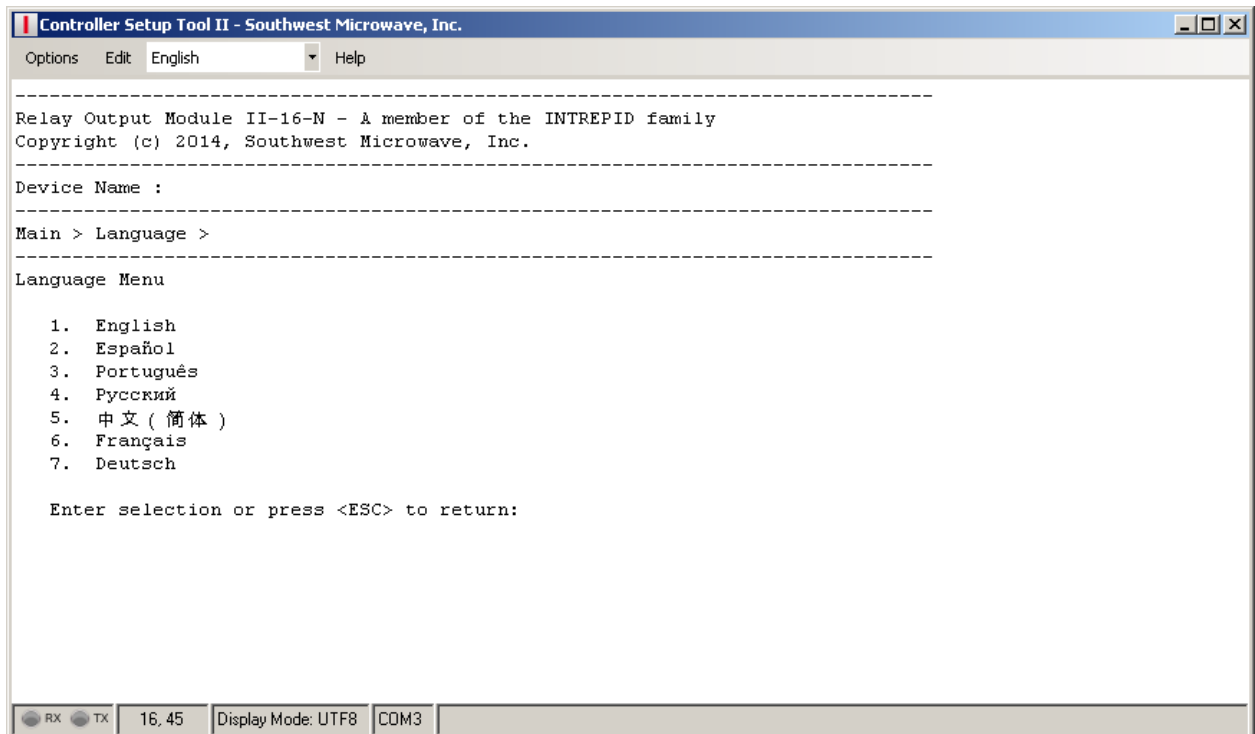

Figure 25 – Languages
Selecting “5” from the Main Menu will open the “Languages” screen as shown in Figure 25. The screen will allow selecting one of the seven (5) available languages: English, German, French, Spanish, Portuguese, Russian or Chinese.